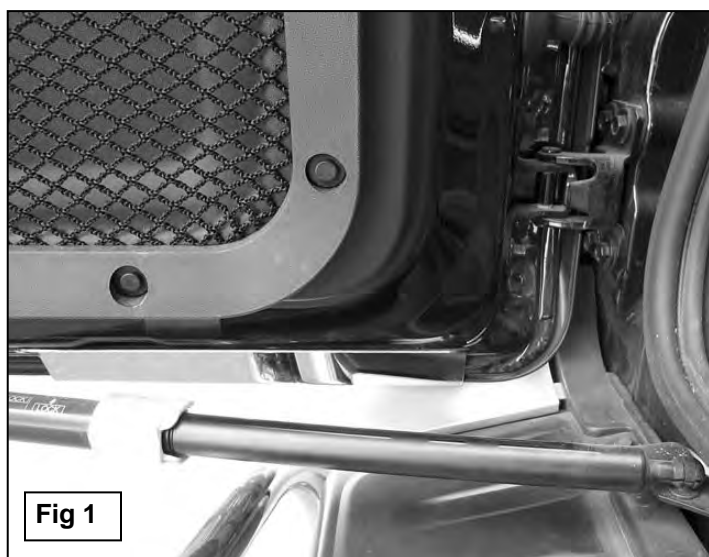

Fig 1
- Open the rear door of the vehicle and position the lower Mounting Bracket onto the bottom corner of the driver's side of the rear door, **(Figure 1)**. The lower Mounting Bracket should be about 2-3/4" back from the corner on the rear door, **(Figure 2)**.